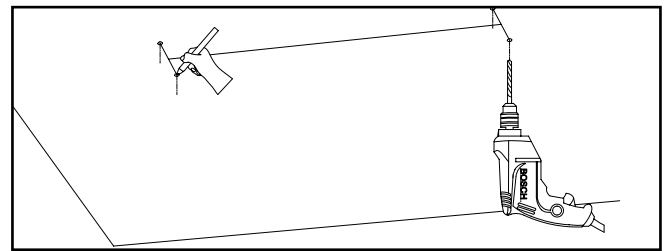

Figure 10.
- Hang aircraft cable assembly with appropriate anchors. (Anchors not included). See Figures 10 through 14.